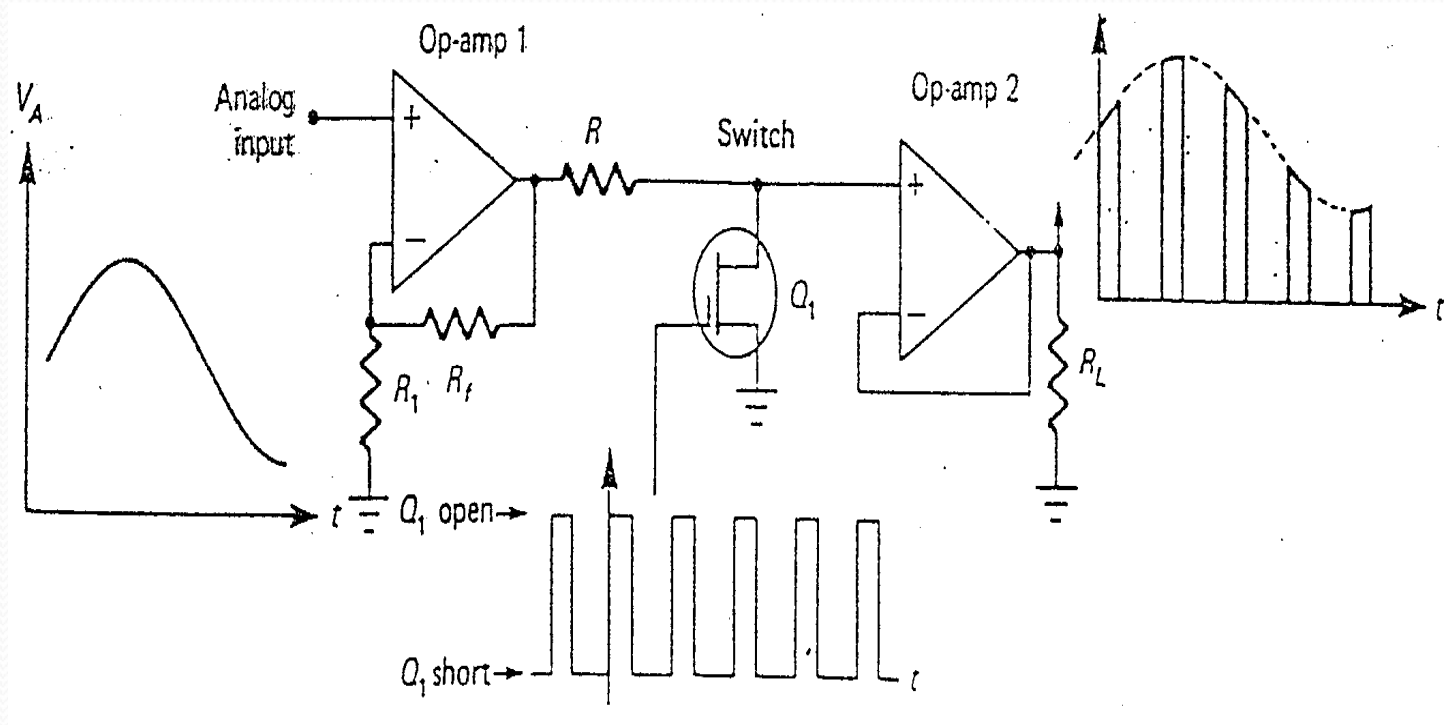

Figure 11-3. Pulse amplitude modulator, natural sampling.
- The circuit of Figure 11-3 is used to illustrate pulse amplitude modulation (PAM). The FET is the switch used as a sampling gate.